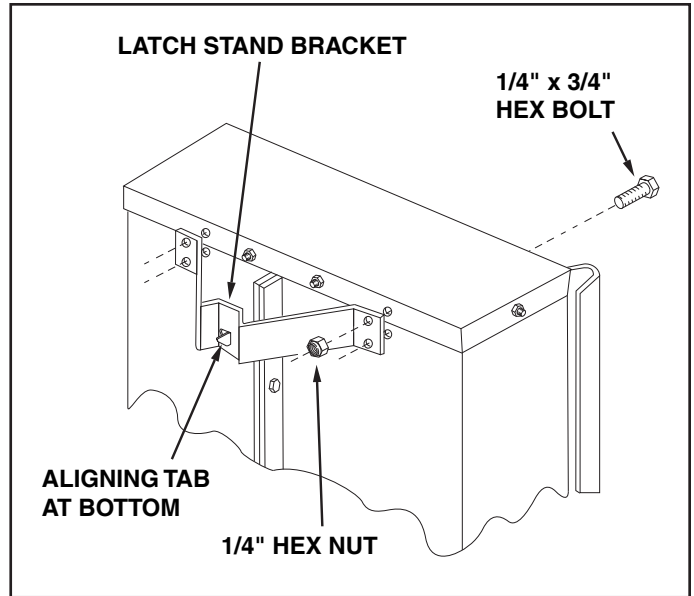

FIGURE 6
11. Turn the latch stand bracket so that the aligning tab is at the rear (bottom) of the bracket. Assemble the latch stand bracket to the cart using four 1/4" x 3/4" hex bolts and 1/4" nylock nuts. **Tighten**. See figure 6.